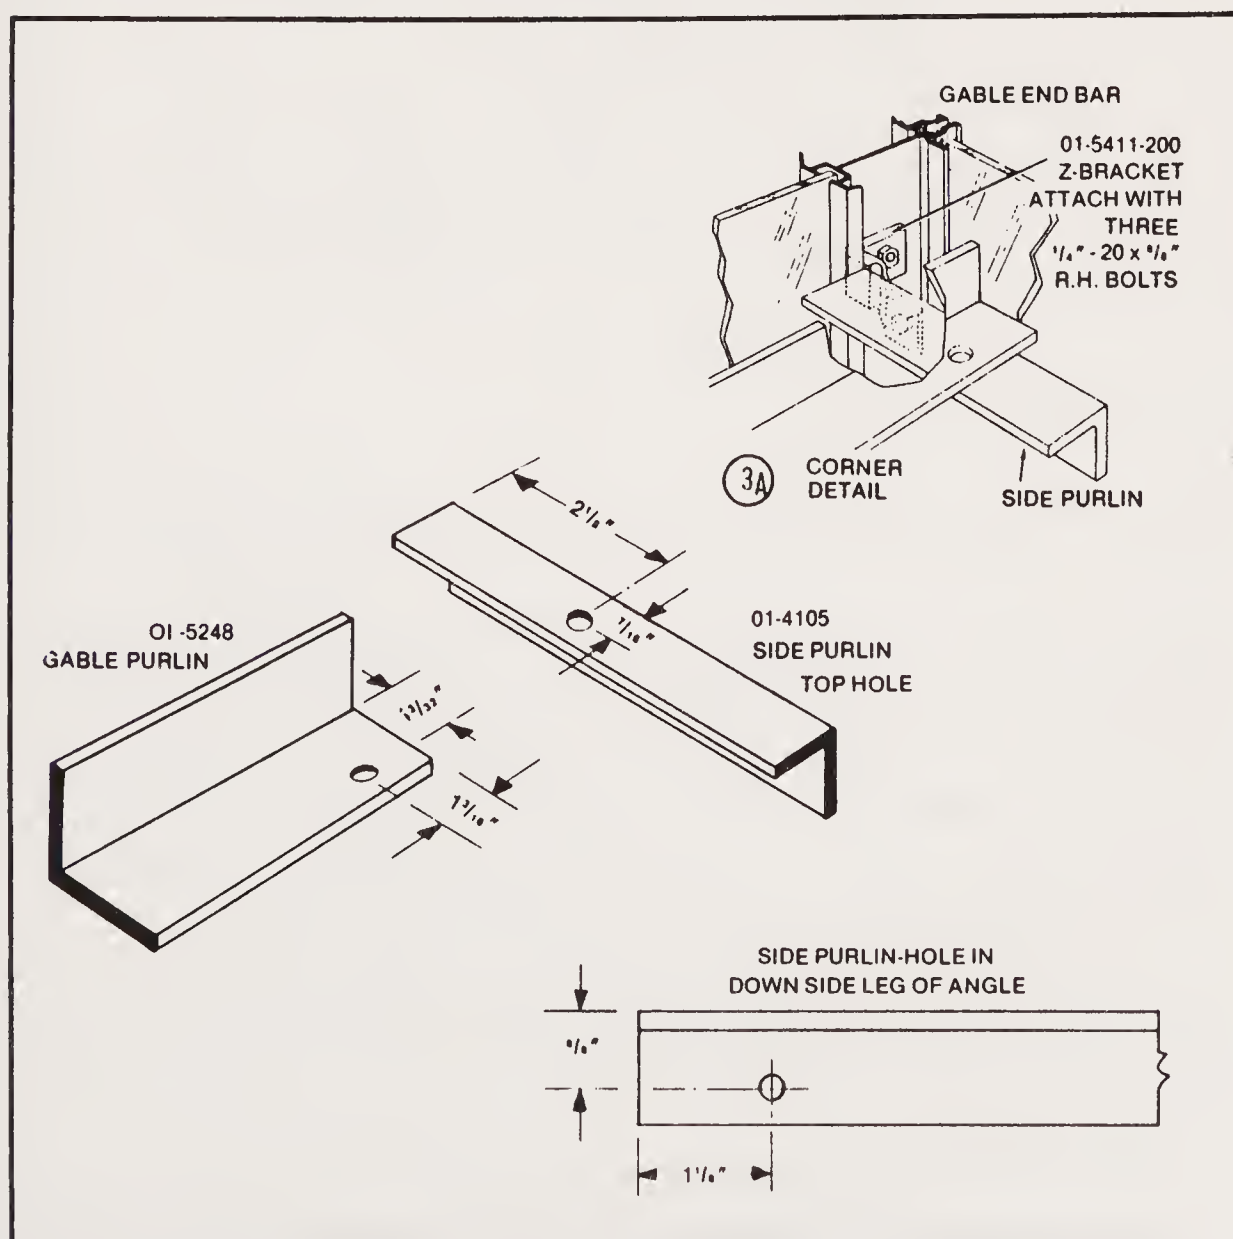

Fig. 2-131. Gable end framing 5/16" (courtesy of Lord & Burnham Co).
**General.** Figure 2-131 shows the details for drilling  $\frac{5}{16}$ " diameter holes in order that parts fasten square and in alignment.